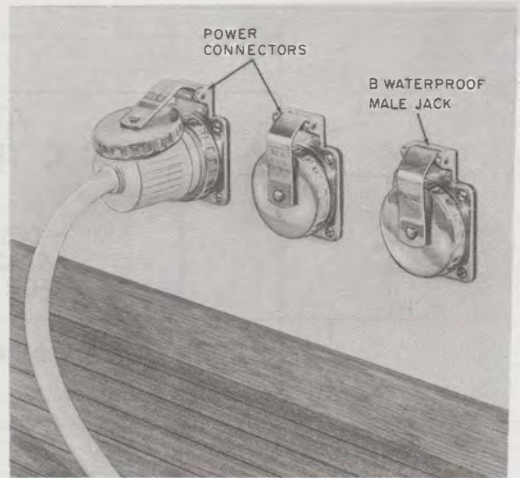

Fig. 18—B Waterproof Male Jack Mounted on Boat—Typical
- 3.08** The owner of the boat should be given the B template to drill the mounting and clearance holes for the B waterproof male jack adjacent to the power plugs in the cockpit coaming or in the outer hull of the boat (see Fig. 18 through 21). The installer should not drill any holes on boats either for mounting or running wire.